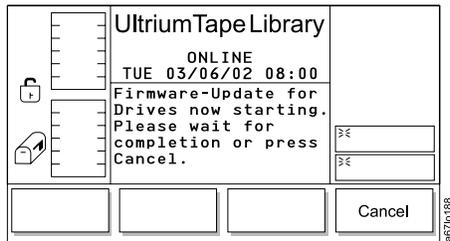

Figure 8-10. Firmware Update Starting Dialog
- Press the button below the **OK** softkey. The Firmware Update Starting Dialog displays (see Figure 8-10) and the update begins.